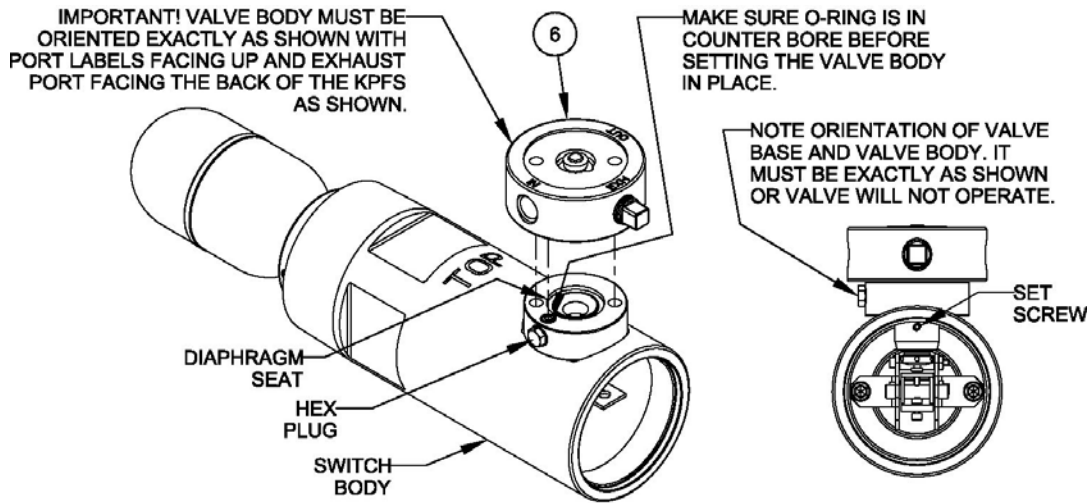

Figure 3
2. Check the orientation of the Valve Base from the previous section. Make sure the hex plug is to the left of the Switch Body when viewed from the open end of the switch enclosure as shown in Figure 3. The set screw on the Valve Base should also be visible.
3. Now place the Valve Body on top of the Valve Base exactly as shown. The text on the Valve Body should be facing up and the exhaust port with the square plug should be facing the rear of the KPFS as shown in Figure 3. There is a diaphragm on the bottom of the Valve Body (not visible in figure 3). The diaphragm will fit into the diaphragm seat on top of the Valve Base. Make sure the diaphragm is fully seated into the Valve Base and that the Valve Base and Valve Body are properly oriented.